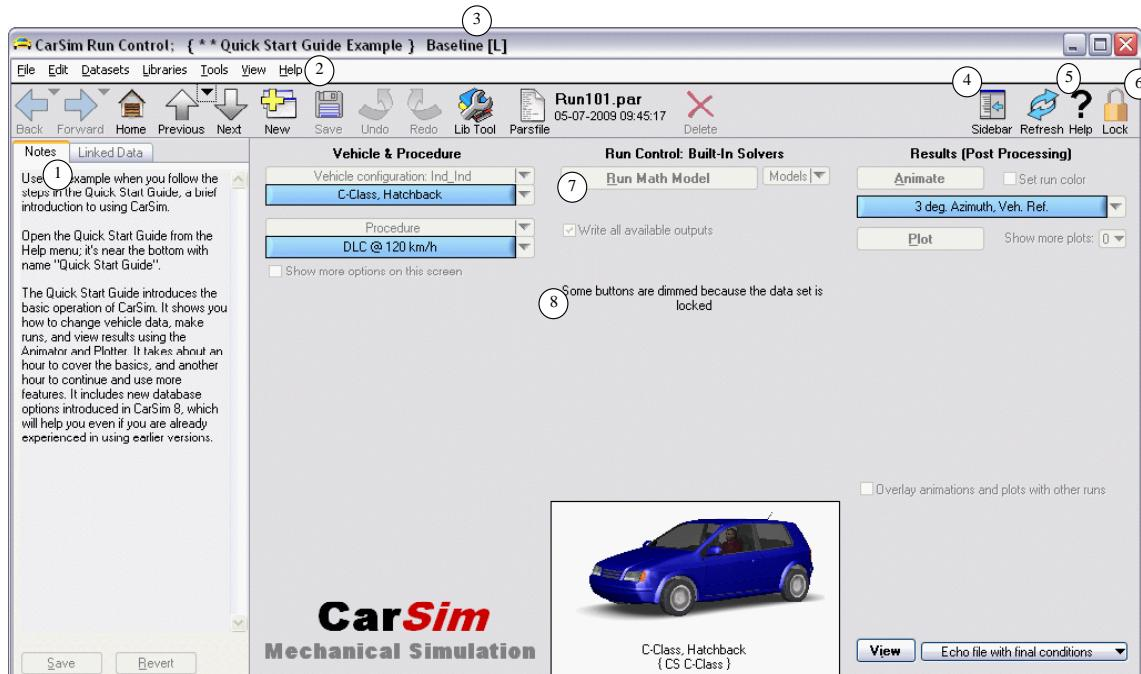
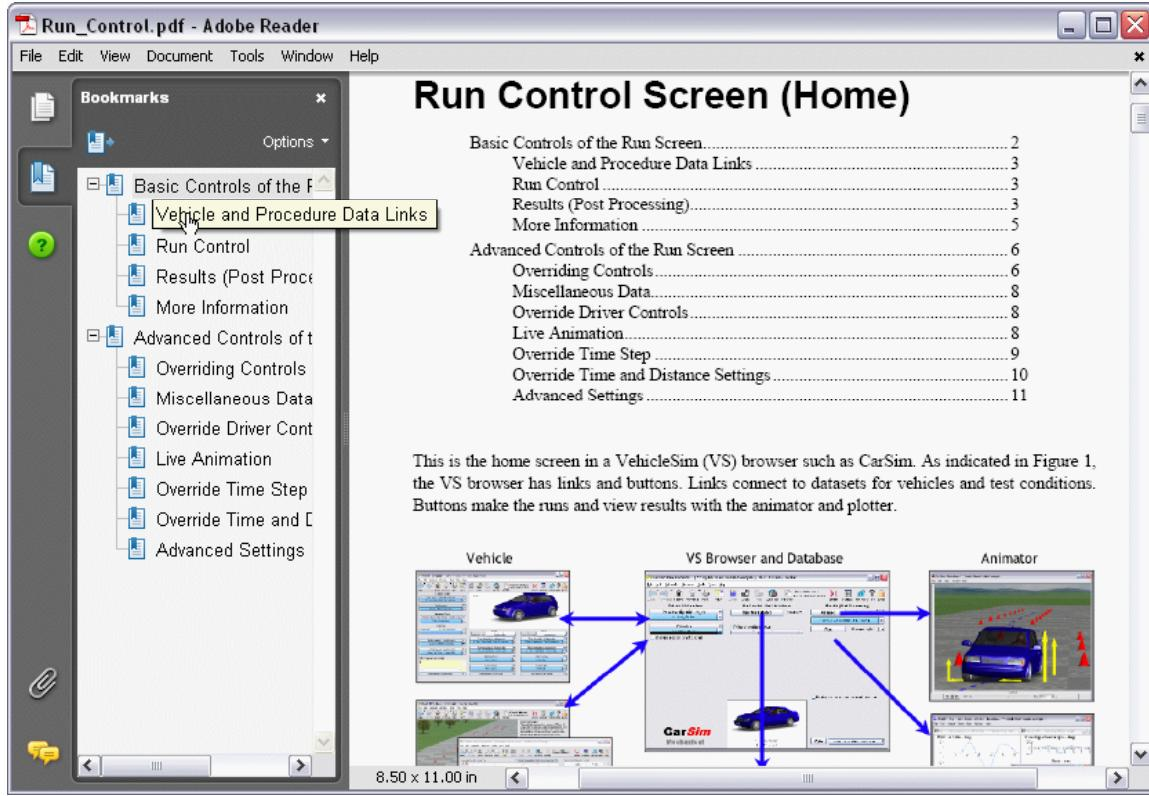

Figure 6. The CarSim Run Control screen.
Figure 8. On-line documentation about the current screen.
CarSim opens with a view of the **Run Control** screen (Figure 6).
1. The CarSim screen displays a *dataset* from a *library*. The window title bar identifies the library name and the full name of the dataset. In Figure 6, the library name is **CarSim Run Control**, the dataset category is *** * Quick Start Guide Example**, and the title of the dataset in that category is **Baseline** (3).
4. Click the **Linked Data** tab ① (Figure 6), then the **Notes** tab to switch between the two sidebar functions. Leave the **Notes** tab selected.
5. Right-click and hold on the **Lock** button ⑥. Initially, the dataset you view just after creating a new database is locked. Several visual cues indicate it is locked:
- a. The title of the window has a suffix [L] ③; when unlocked the [L] disappears.
- b. The notes field and any fields with editable numbers or names are shown with the Windows “dimmed” color ① (light gray in the Windows XP theme that was in use when these figures were made); when unlocked they have yellow backgrounds.
- c. The **Lock** button show an image of a closed lock ⑥; when unlocked the image shows an open lock.
- d. Buttons might be dimmed, such as the **Run Math Model** button ⑦.
- e. In the case of this specific screen, a message is shown saying it is locked ⑧.
6. Click on the **Lock** button ⑥ to unlock the dataset. Notice how the screen appearance changes to visually indicate that it is no longer locked.
7. Click the **Help** button ⑤. This launches the Adobe Reader program, with a PDF documentation file for the current screen (Figure 8). At any time, the documentation for the current screen can be obtained with this button or by typing the F1 key. Alternatively, the **Help** menu ② can be used to access this and many other documents that are installed with CarSim.
8. Right-click and hold on the **Run Math Model** button ⑦ (Figure 6) for an on-line description of the button, then click the **Run Math Model** button to make your first run in CarSim. A status bar appears to show the progress of the run (Figure 9). The CarSim math model runs significantly faster than real time, so this will just take a few seconds.